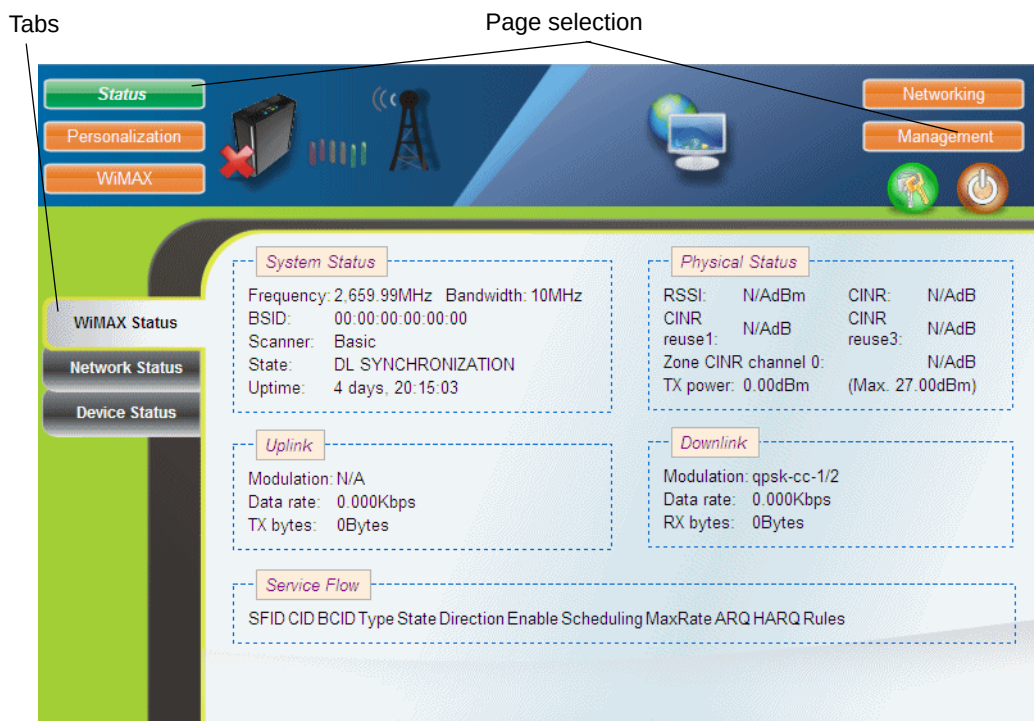

Figure 5: Example of Web Page
- 2 Enter the username and password. The configuration server main window is displayed (see Figure 5).
Figure 5 shows an example of a typical web page. The area at the top of the page includes selection buttons for the various pages, an icon showing the status of the CPE and the Logout and Shutdown buttons. Selecting a particular page, will display tabs of the options available for that page on the left. Clicking on a tab will display the configuration/status page for the selected tab, with the applicable content (configurable parameters/options or status information) in the main area.